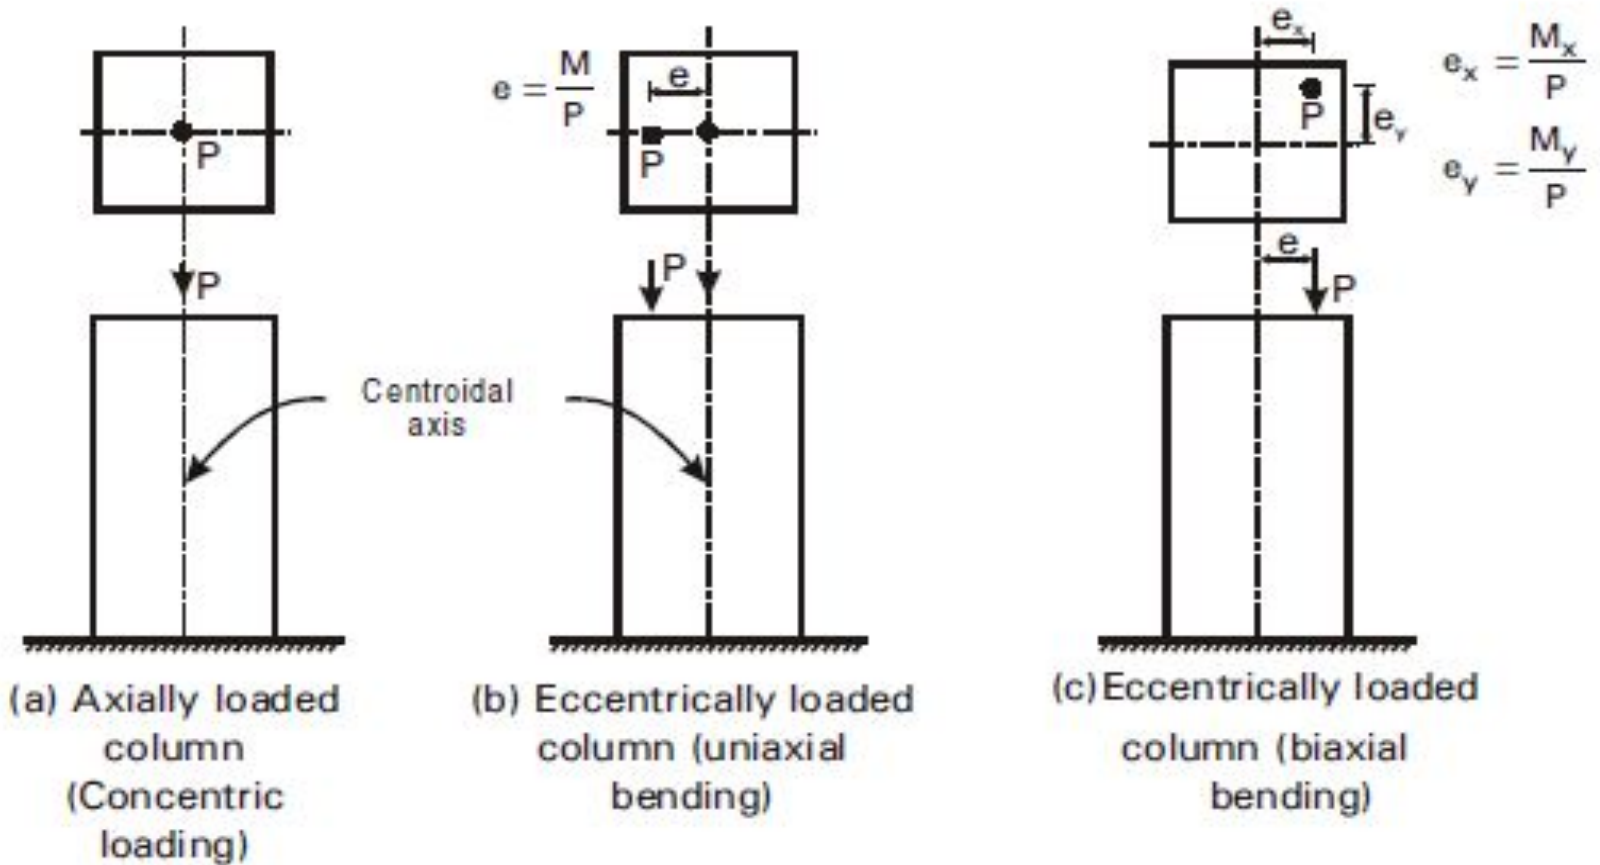

Fig. 5.1 : Different loading situations in columns
- a) **Axially loaded Columns :** (Concentric loading) The columns which are subjected to loads acting along the longitudinal axis or centroid of the column section are called as axially loaded columns as shown in fig. 5.1(a). Axially loaded column is subjected to direct compressive stress only and no bending stress develops anywhere in the column section.
- b) **Eccentrically loaded Columns:** Eccentrically loaded columns are those columns in which the loads do not act on the longitudinal axis of the column. They are subjected to direct compressive stress and bending stress both. Eccentrically loaded columns may be subjected to uniaxial bending as shown in fig. 5.1(b) or biaxial bending as shown in fig. 5.1(c) depending upon the line of action of load with respect to the two axis of the column.